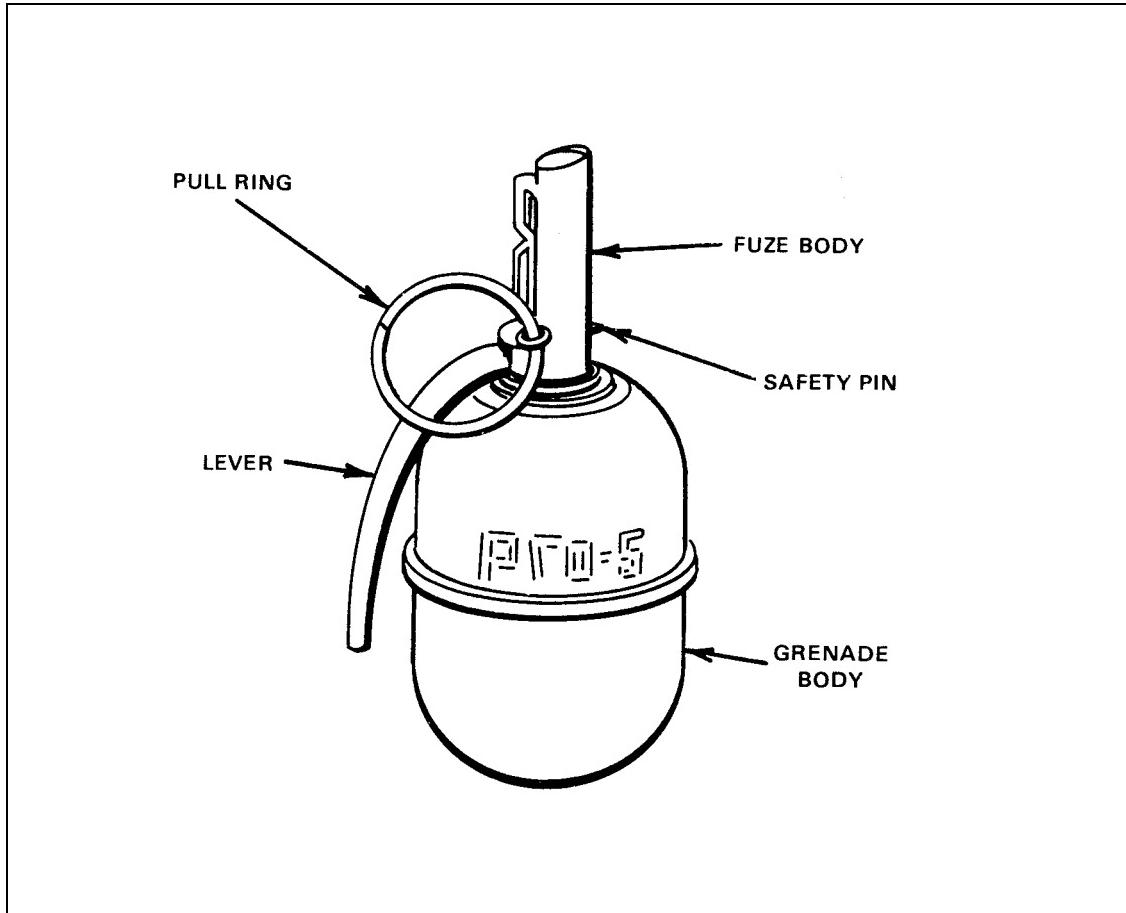

Figure D-5. RGD-5 hand grenade.
- Type: Fragmentation. (Figure D-5)